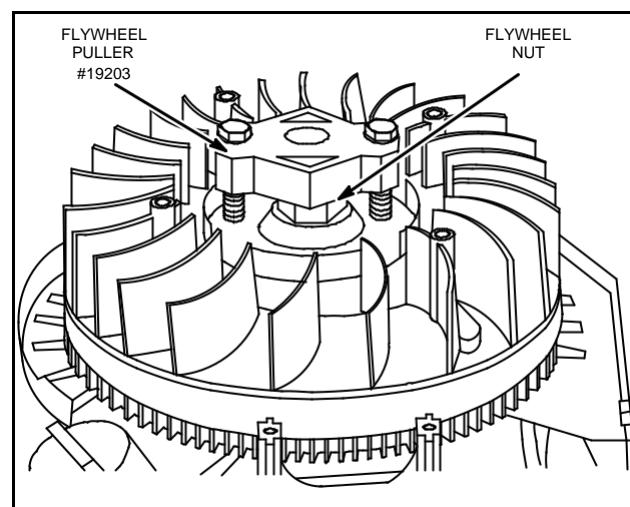

Fig. 26 – Remove Flywheel
3. Tighten puller screws equally until flywheel loosens, Fig. 26.